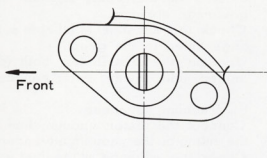

Fig. 7-49 Distributor Driven G0344
b. Pull out the distributor driven gear, and sleeve from the cylinder block, and align the driven gear as shown in figure 7-49.